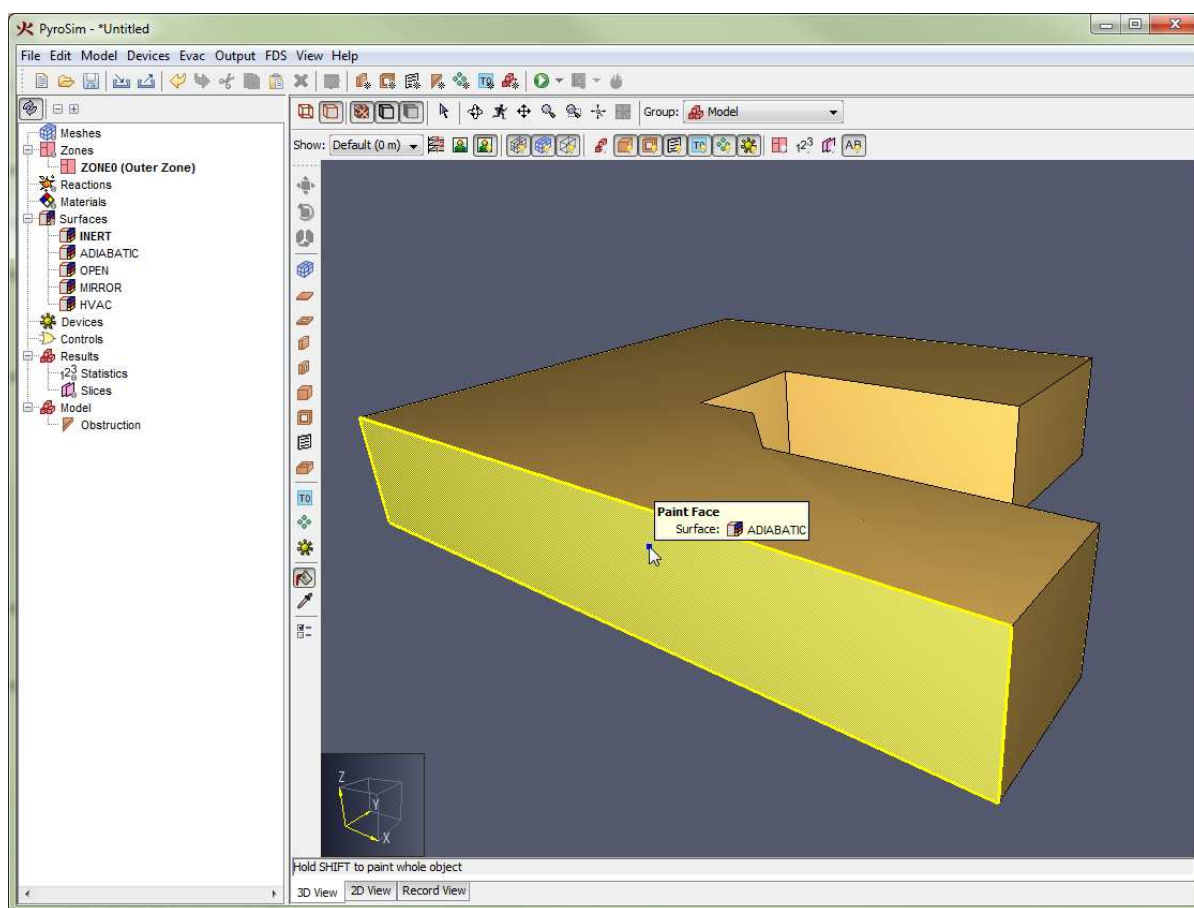

Figure 101. An obstruction face highlighted by the paint tool
2. Hover the cursor over the desired face to paint. If the face can be painted with the current surface/color, the face will highlight yellow as shown in Figure 101.